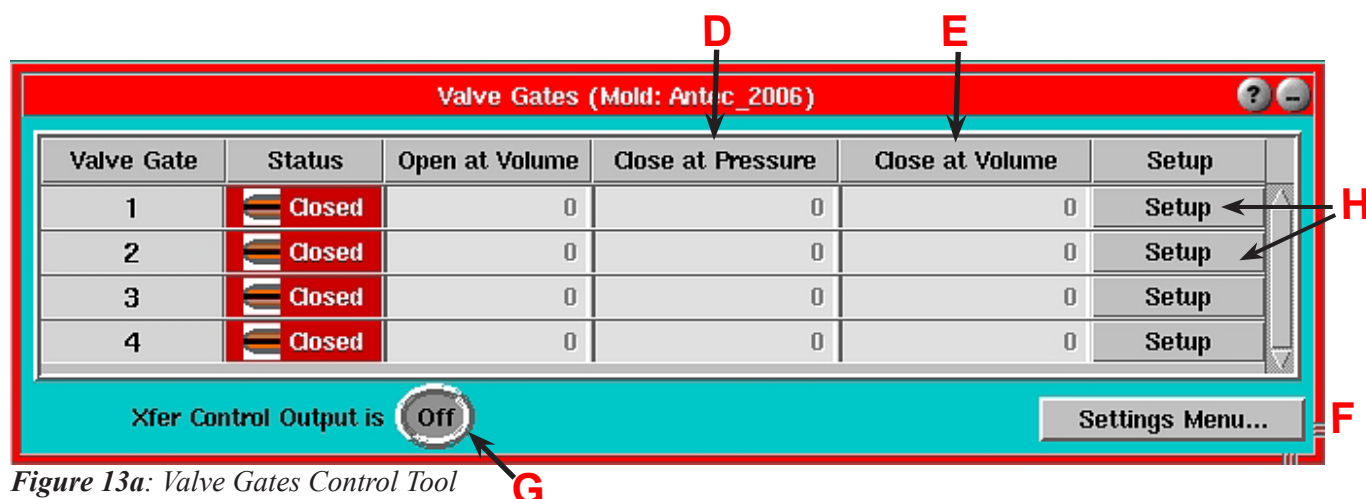

Figure 13a: Valve Gates Control Tool
- I. **Valve Gate Open Control:** To bring up this screen, select Valve Open Control from the Setup see "H" in figure 13a page 12. Here you can choose when the selected valve gate should open. Note that you can select more than one option or none if you want to keep a cavity closed during process setup.